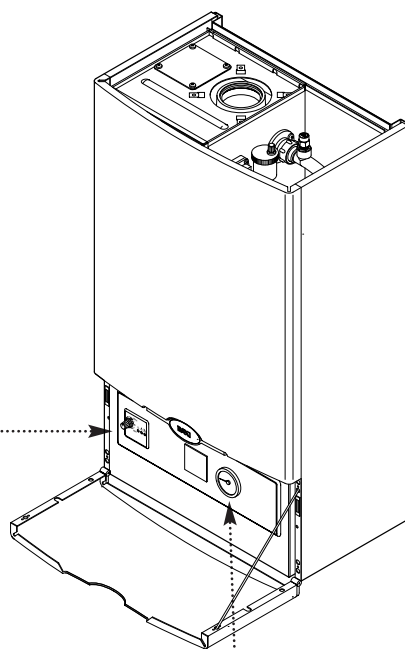

Fig. 1
1. Hinge the lower door panel down (Fig. 1).